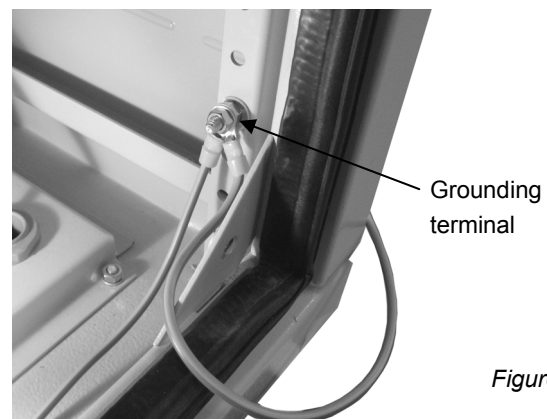

Figure 10
The enclosure of the Sunmaster XL must be connected to protective earth (PE) by means of an equipment-grounding conductor. For this purpose a grounding terminal is situated at the lower right corner inside of the enclosure (see figure 10). The power modules PE cable must be grounded according to figure 12, section 4.8.3.
- Connect the MasterBus communication cables and the MasterBus terminating devices as indicated in figure 10. The MasterBus communication ports can be found at the bottom side of the power modules (figure 2).
Make sure that you neither connect the MasterBus communication cables nor the MasterBus terminating devices to the RS485 communication ports (see figure 10)!